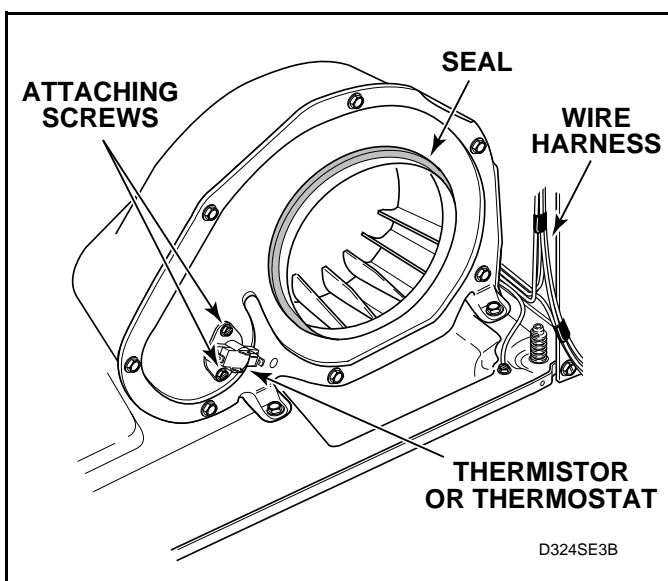

Figure 38
**IMPORTANT:** When reassembling, be sure seal on exhaust fan cover makes airtight seal on flange of duct. See *Figure 38*. If the seal is installed improperly, the airflow through the exhaust system will be restricted which can adversely affect dryer performance.